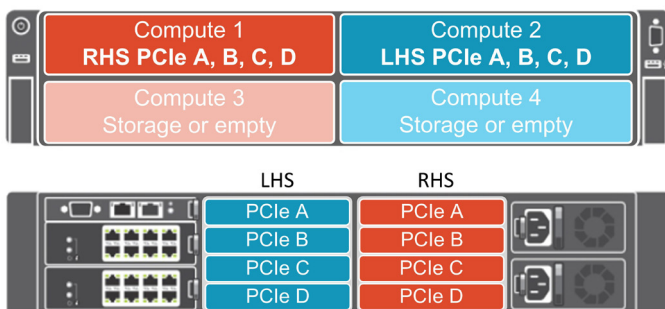

Figure 2: Two blade configuration example
In Figure 2, all four cards in the Quad-Expansion module connect with a single blade in the top Compute position. So Compute 1 connects to A, B, C & D on the RHS (rear). Compute 2 connects to A, B, C & D on the LHS (rear). Compute 3 and Compute 4 are storage or empty sleds.
- To select the configuration in Figure 2, make sure the checkbox for Enable PCIe Slot Reassignment is selected.